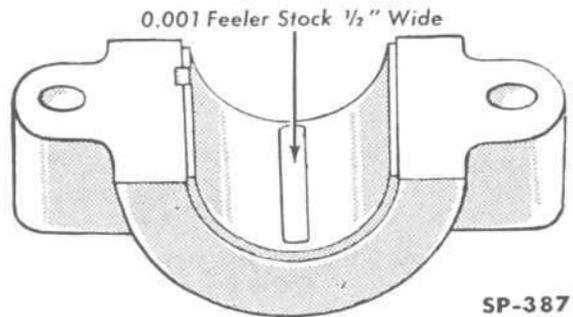

FIG. 50—SHIM STOCK IN POSITION ON MAIN BEARING
- a. Cut a piece of .001 of an inch [.0254 mm.] thick, by $\frac{1}{2}$ inch [12,7 mm.] wide, feeler stock $\frac{1}{8}$ inch [3,17 mm.] shorter than the width of the bearing. Coat this feeler stock with light engine oil and lay it on the bearing in the cap, as shown in Fig. 50. With the shim in this position, install the bearing and cap on the crankshaft.